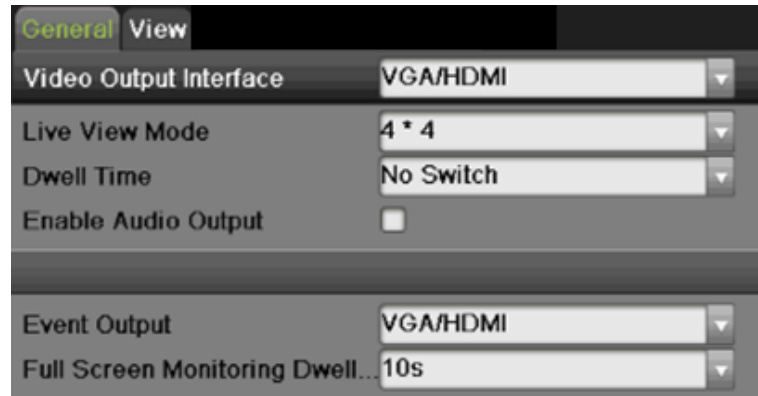

Figure 60 Live View Menu
3. Set the live view interface parameters and event output by going to Menu > System Configuration > Live View > General, as shown in Figure 60.